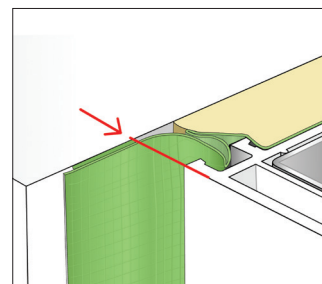

Fig 3
- Bond membrane to reveal using the butyl strip. Ensure that the membrane is located as in fig 3.